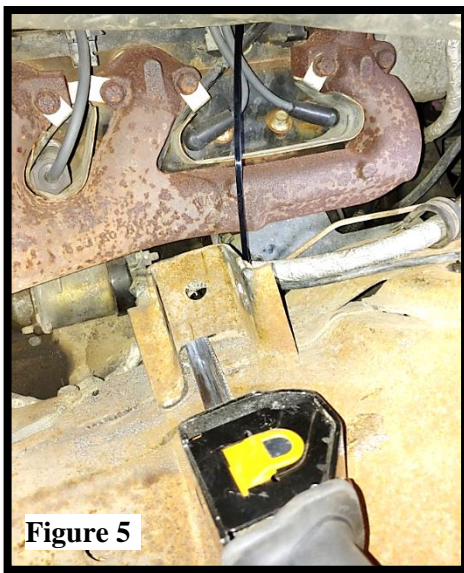

Figure 5
21. Ensure there are not any wires/brackets behind the factory control arm mounts before cutting them off flush with a reciprocating saw. **(Figure 5)**